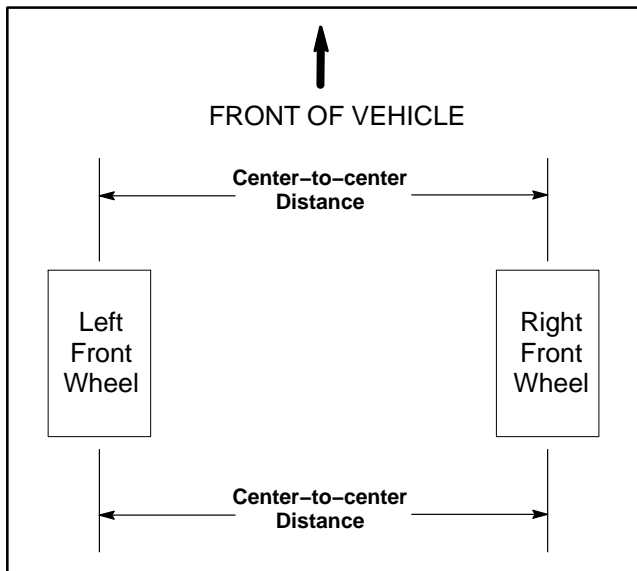

Figure 28
2. With the pitman arm centered, measure center to center distance (at axle height) between the front wheels at both front and rear of the wheels (Fig. 28). The front and rear measurements should be equal with a tolerance of 0.120" (3 mm). Rotate tires and make a second measurement.